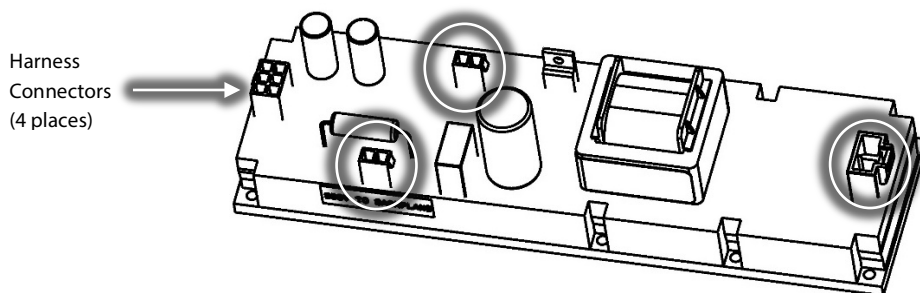

Figure 17 – HV DC-DC Harness Removal
26. Disconnect all wiring connections from the HV DC-DC. Refer to Figure 17 (HV DC-DC Harness Removal).
20. Connect the Motor Temperature Sensor, DC-DC, and Inverter Cables. Refer to Figure 17 (HV DC-DC Harness Removal).
22. Connect the three (3) AC wires from the Soft Start AC/DC cable harness to the appropriate AC bus bar.